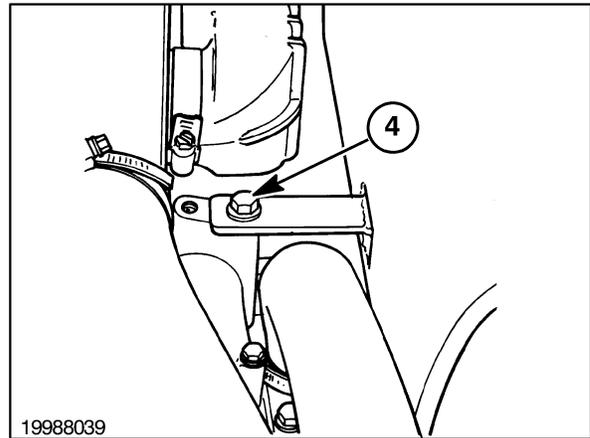

Figure 1-8
4. Remove the exhaust muffler, 1, and manifold assembly, 2. Loosen bolt, 3, and bolt, 4, Figure 1-8, to remove exhaust muffler. Loosen six bolts, 5, to remove exhaust manifold.